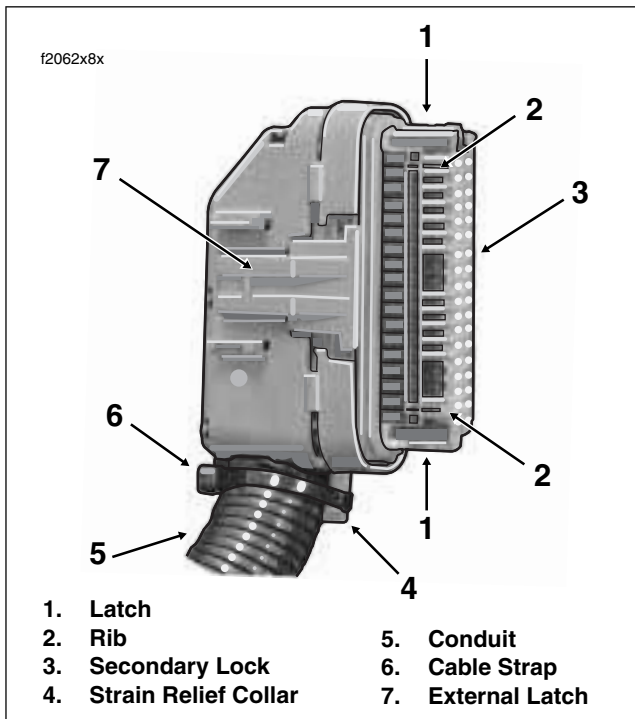

Figure B-33. Remove Secondary Lock
1. Gently depress latch on each side of the clear plastic secondary lock and remove. For best results, release one side at a time, See Figure B-33.
3. Install **new** cable strap in groove of strain relief collar capturing cable conduit. See Figure B-33.